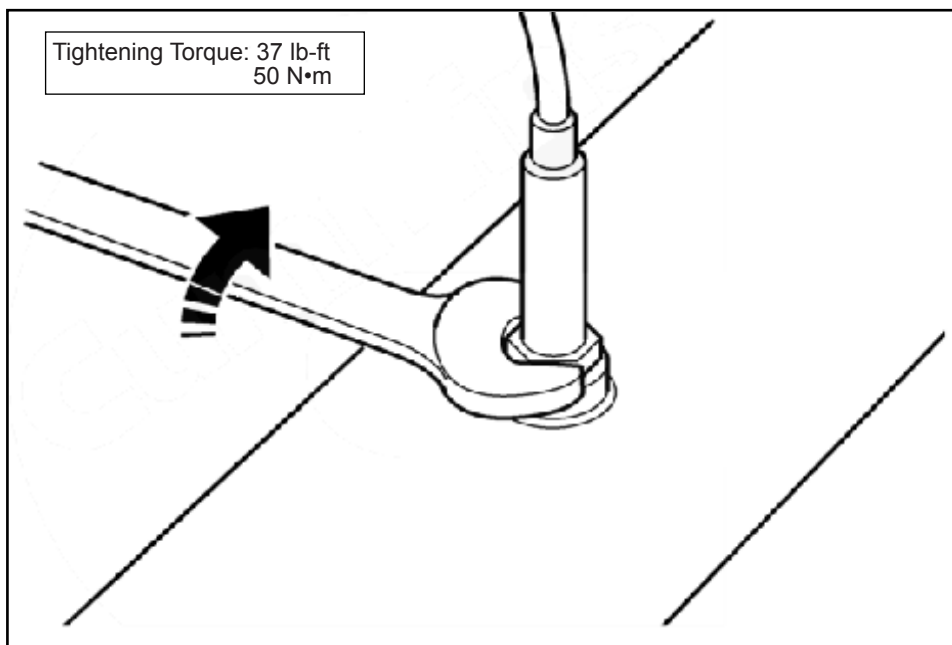

Figure 6 - Typical View of Tightening of NOx Sensor
- 1.9. Install the NOx sensor to the exhaust system and tighten the retaining nut (see Figure 6).